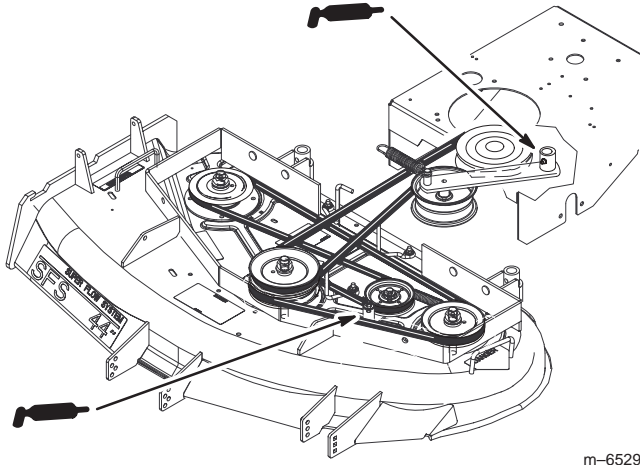

Figure 36
1. Grease the idler pulley pivots (Fig. 36).